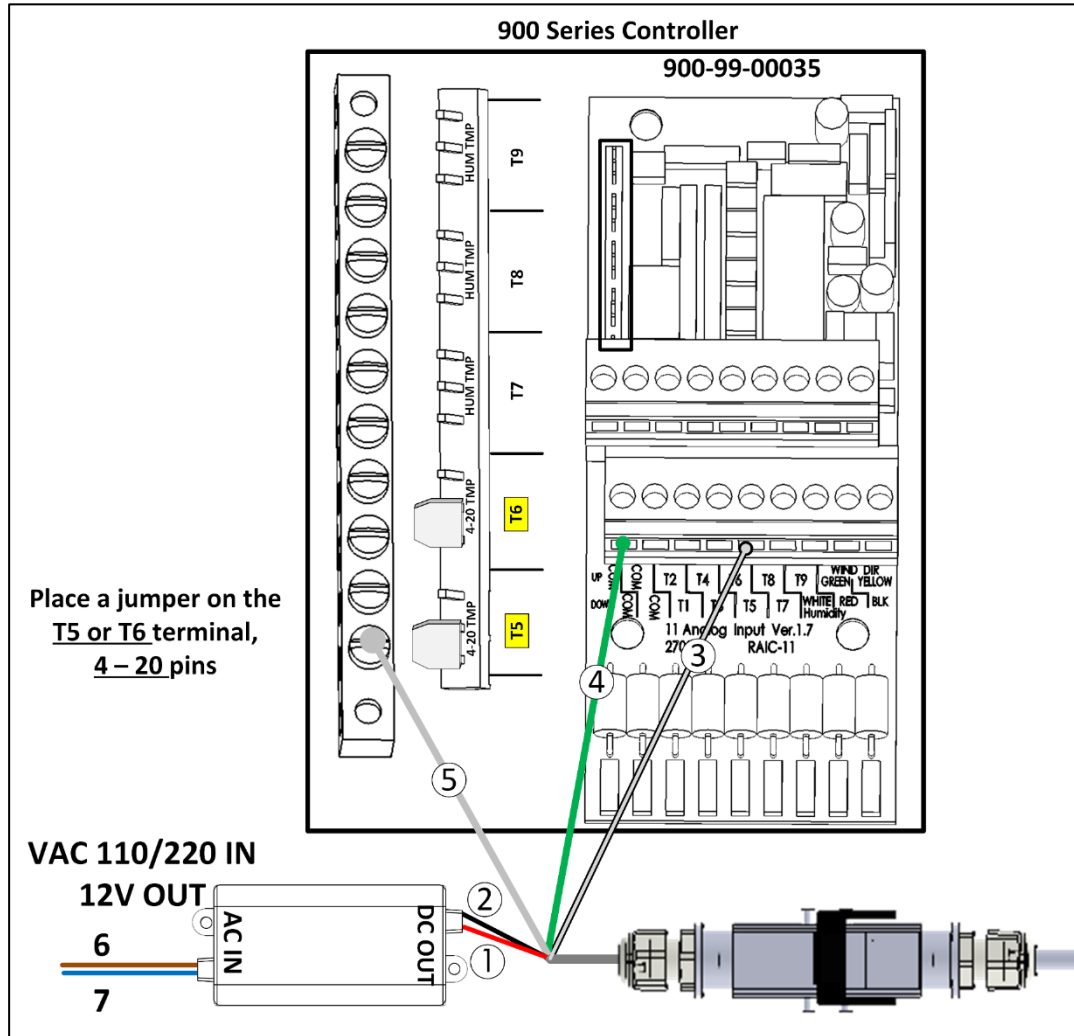

Figure 11: Platinum Wiring
- Connect the sensor to the Platinum Controller (Figure 11, page 10)
1. Attach the other end of the sensor cable to the power supply and Platinum Analog Input Card as indicated in Figure 11.